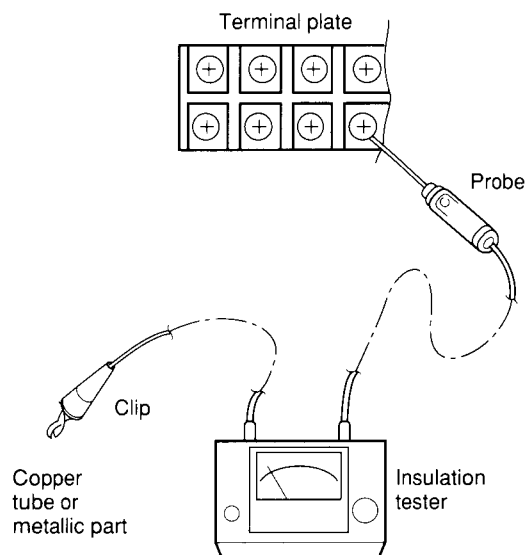

Fig. 45
② Indoor Unit
Clamp an aluminum plate fin or copper tube with the lead clip of the insulation resistance tester and measure the resistance by placing a probe on ①, and then ②, and then ③ on the 6P terminal plate (Fig. 45)
③ Outdoor Unit
Measure the resistance on ⑤ and then ⑥, and then ⑦ on the 8P terminal plate in the same manner as explained above (2). (Fig. 45)